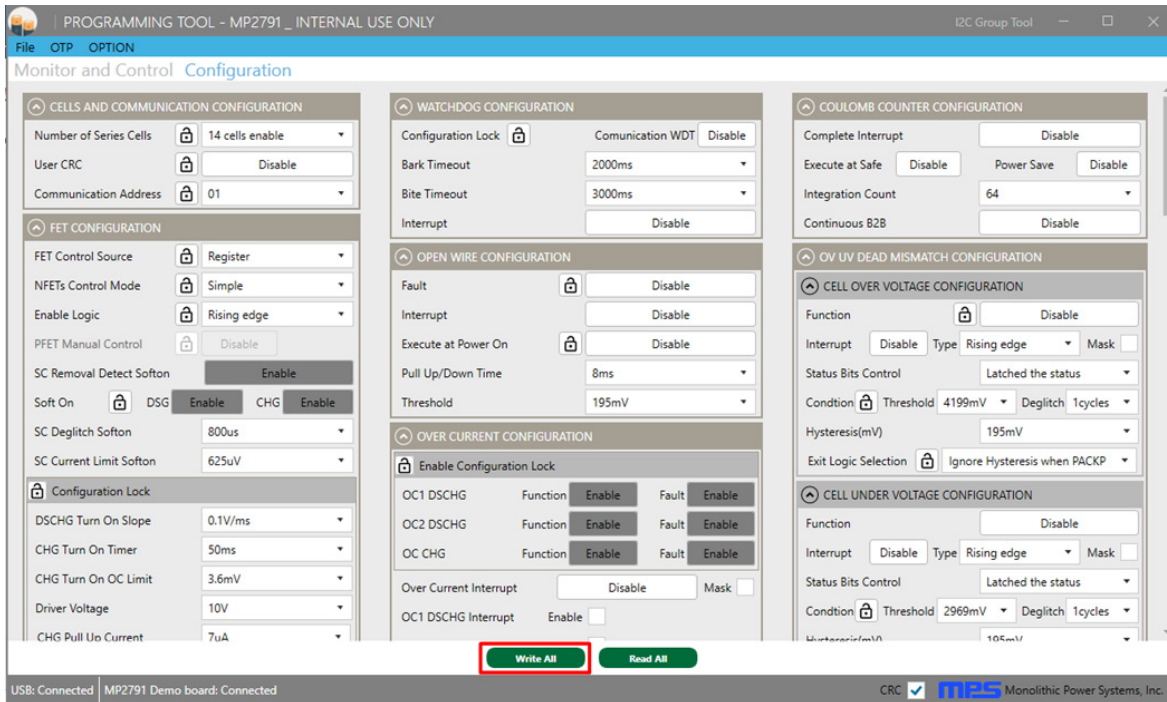

Figure 6: MP2791 Configurations
1. Click on the Configuration tab in the GUI to view the device configurations (see Figure 6). The software will automatically read the device configurations when the tab is switched from Monitor and Control to Configuration. Note that the items with a lock symbol to the right can be configured as read-only.